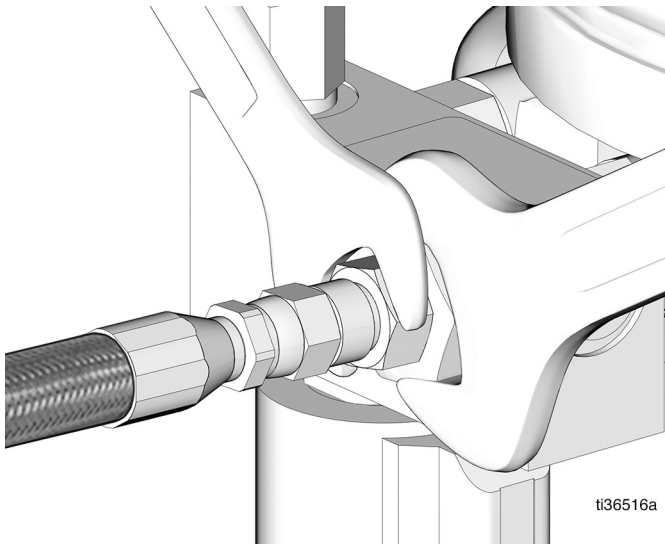

FIG. 8
10. Reconnect the main line (FIG. 8).